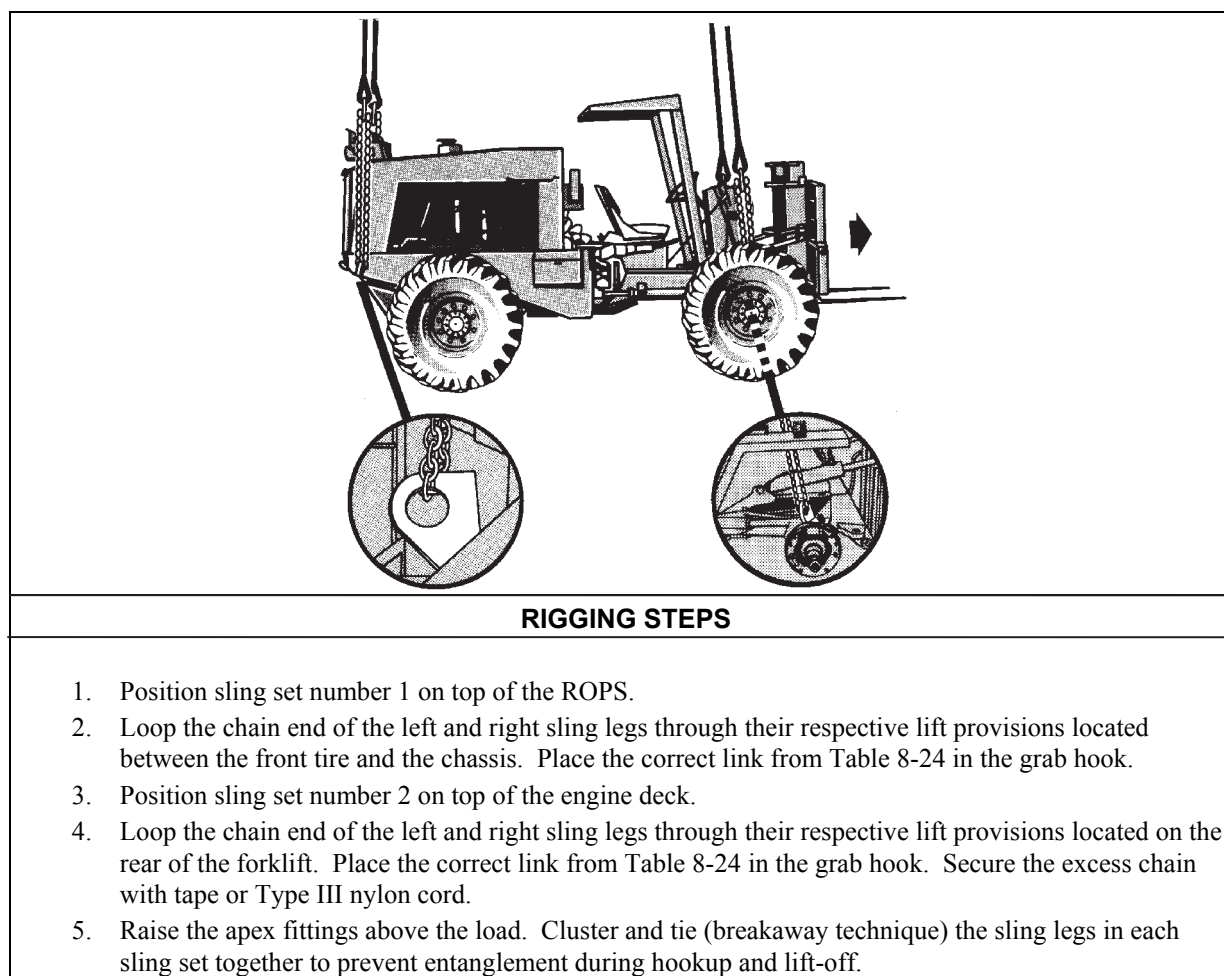

Figure 8-24. Truck, Forklift, MC-4000
- **Rigging.** Rig the load according to the steps in Figure 8-24.